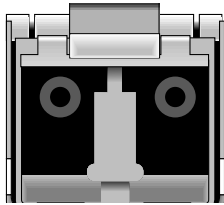

FIGURE 5-4 Duplex Jack at the End of an SFP
2. Plug one end of a Fibre Channel cable into the duplex jack at the end of the SFP, as shown in FIGURE 5-4.